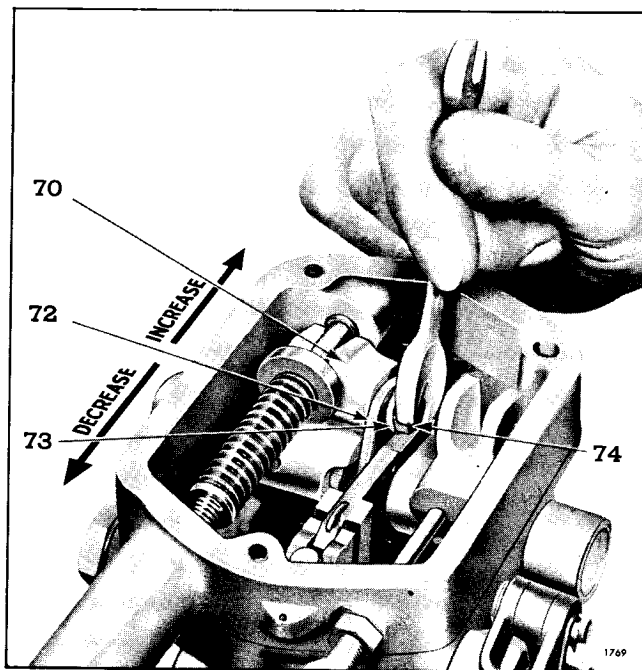

Fig. 4 - Adjusting Speed Droop
4. Refer to Fig. 4 and loosen droop adjusting bolt (74). Move bracket (72) so that bolt is midway between ends of slot in bracket. Tighten bolt.